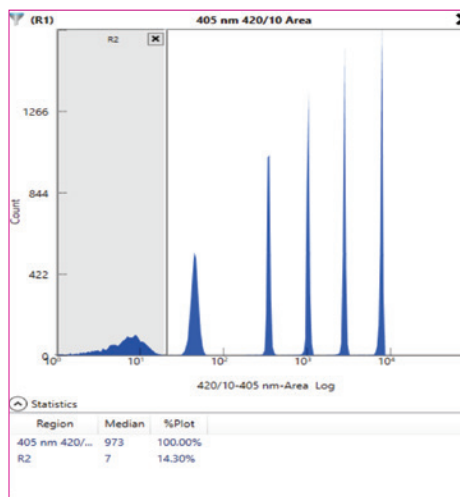

Fig. 2. Example histogram plot showing six peaks with correctly adjusted voltage setting.
- b. Adjust the PMT voltage until all six peaks are visible in the plot. It may be necessary to increase the PMT voltage initially above the optimal setting to ensure that the blank bead peak is on-scale before fine tuning. Fine-tune by adjusting the voltage until the dimmest peak median is between channels 5–10 (Figure 2). Once adjusted, delete the R2 gate for optimal performance. Repeat this process sequentially for every fluorescent parameter in every laser tab (excluding scatter channels).